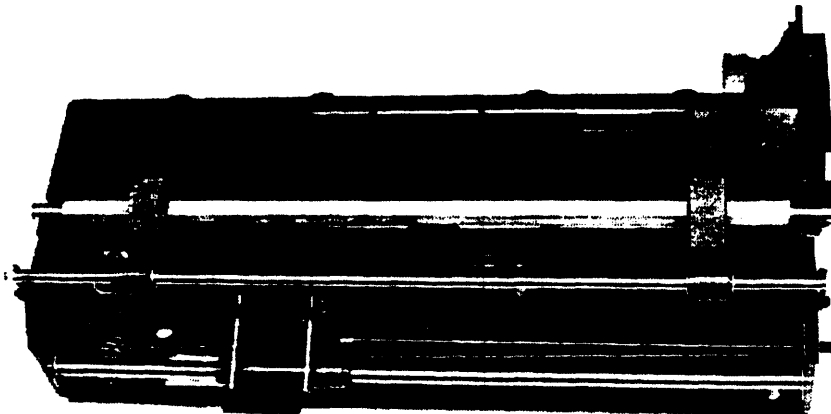

Figure 6-15. Grit-Wheel Installation
1. When installing the platen shaft, place both grit wheels on the shaft and temporarily set the shaft in the mechanism with the dowel hole positioned on the right side. Position the wheels so they fit between the flanges on the platen frame. See figure 6-15.